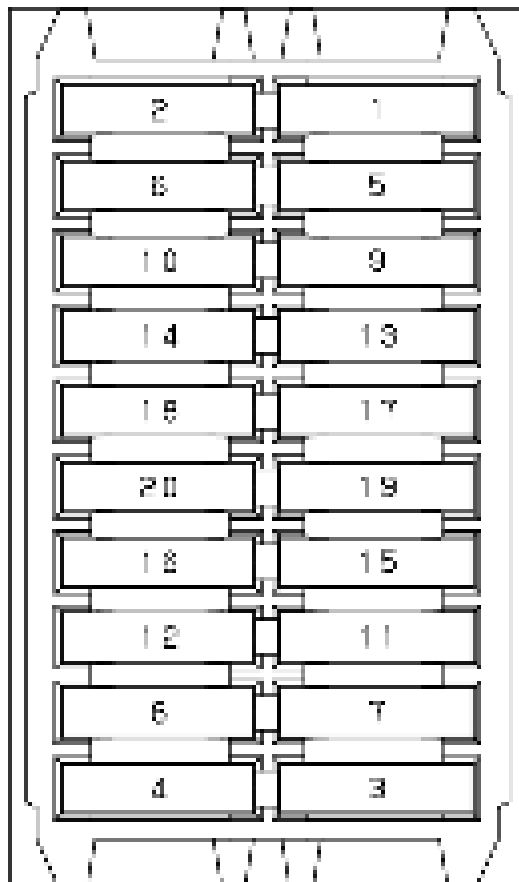

Figure 5.3 Fraction packaging
- (1) The cushion (lower) shall be put into the box then put two piece of the support-pad each at both the long-side of cushion (lower).
- (2) The unitary packed HDD (bag packing) shall be put into the cushion (lower).
- * For less than 20 HDDs, insert the HDDs starting from the slot with the smallest number in Figure 5.3.